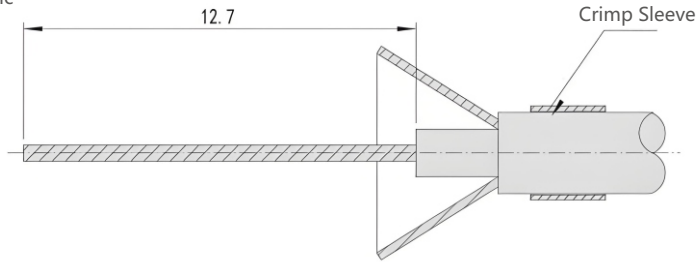

Figure 1.9
- ②As shown in Figure 1.9, slide the crimp sleeve backward onto the cable jacket, spread the shielding layer, and strip off the cable dielectric